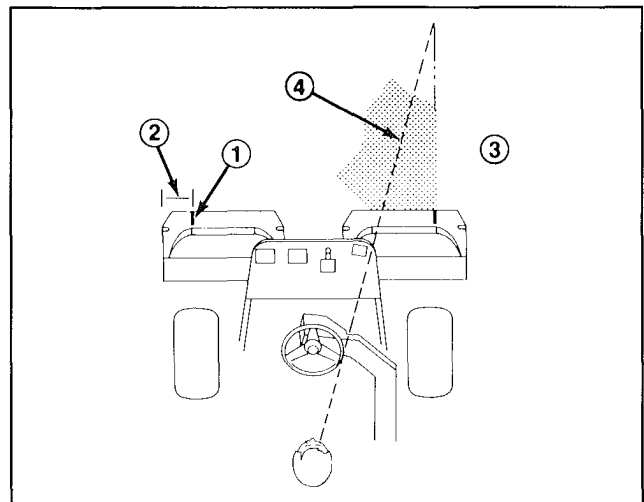

Figure 23
2. Either place a strip of white tape or paint a line onto each basket paralleling the outer edge of each basket (Fig. 23)
3. Overlap a minimal amount with the previous cut on return passes. To assist in maintaining a straight line across the green and keep the machine an equal distance from the edge of the previous cut, establish an imaginary sight line approximately 6 to 10 feet ahead of the machine to the edge of the uncut portion of the green (Fig. 23 & 24). Some find it useful to include the outer edge of the steering wheel as part of the sight line; i.e. keep the steering wheel edge aligned with a point that is always kept the same distance away from the front of the machine (Fig. 23 & 24).